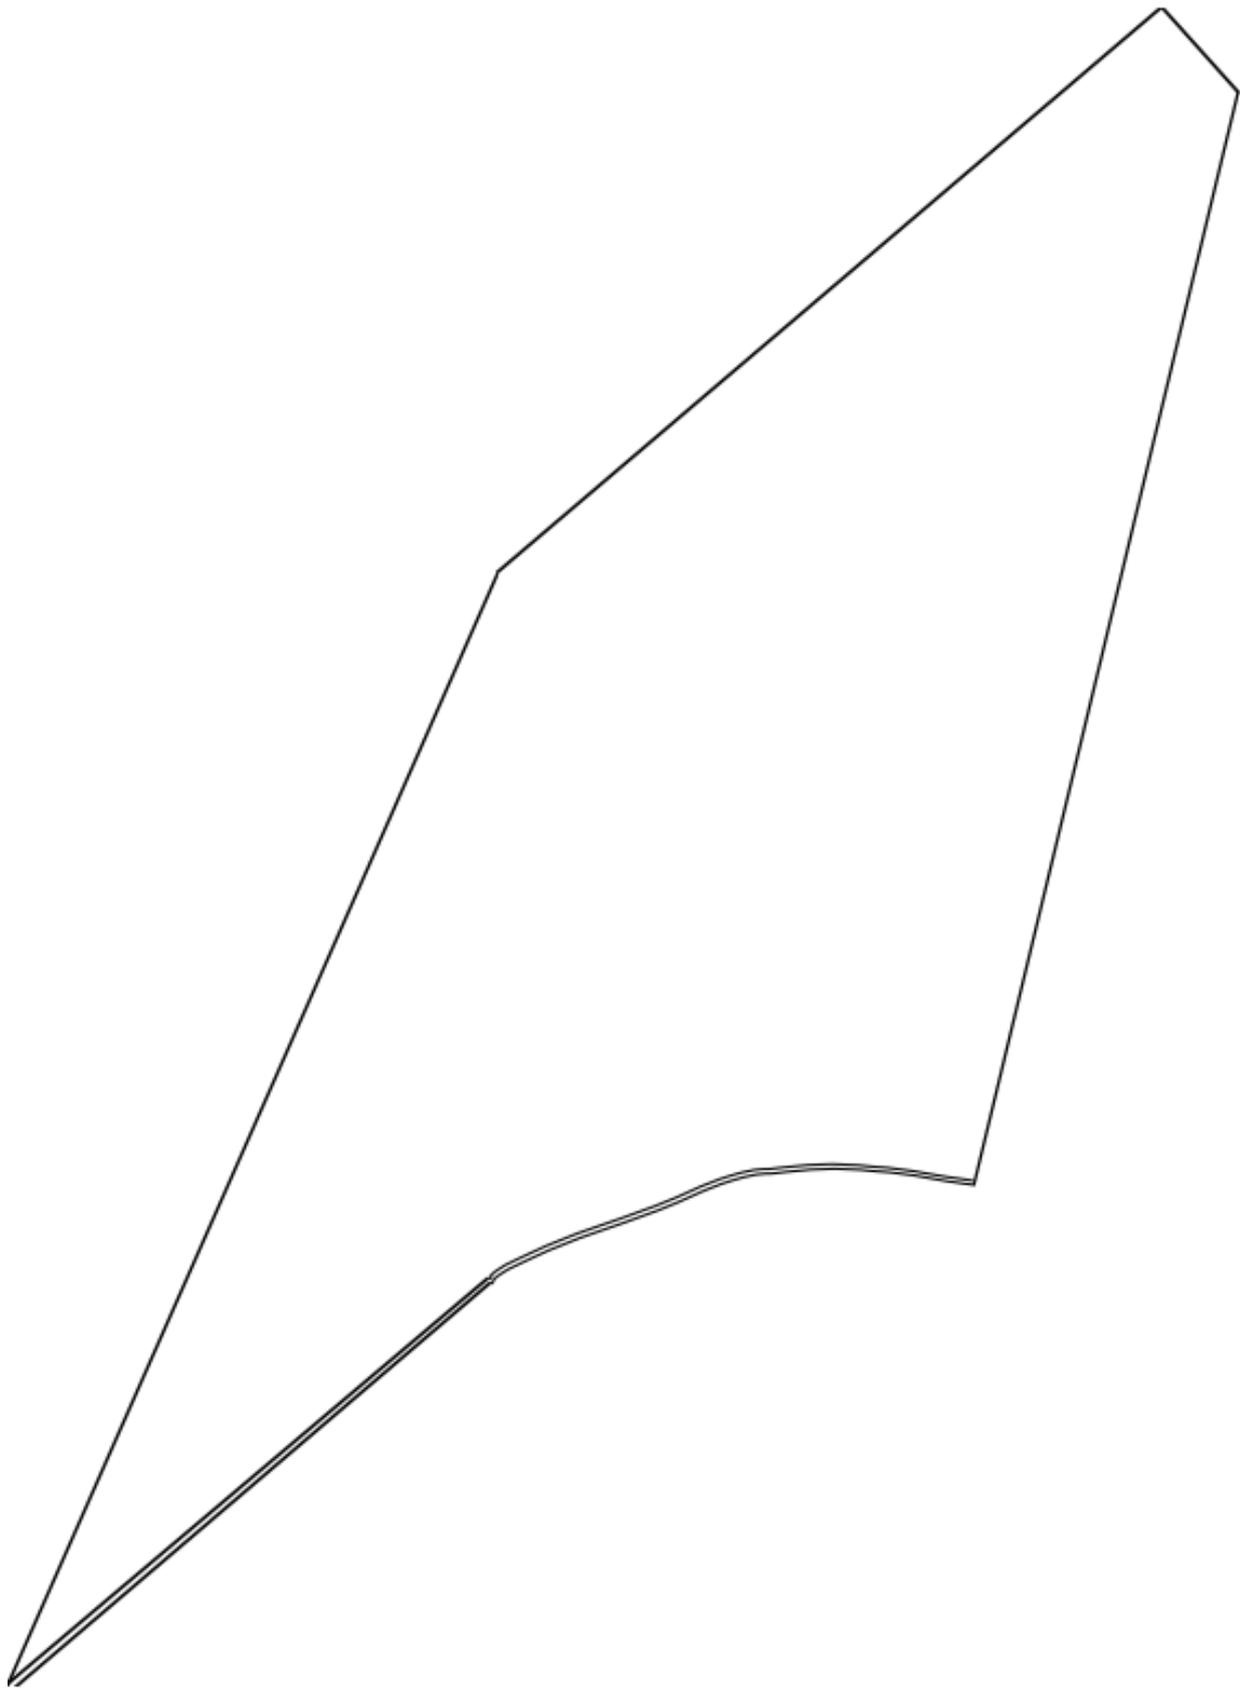

Figure 29
15. Use the pattern of Fig. 29 for the fins. You can copy the fin pattern on a foam board or cardboard and cut it with a cutter knife, so that the fins are more durable.